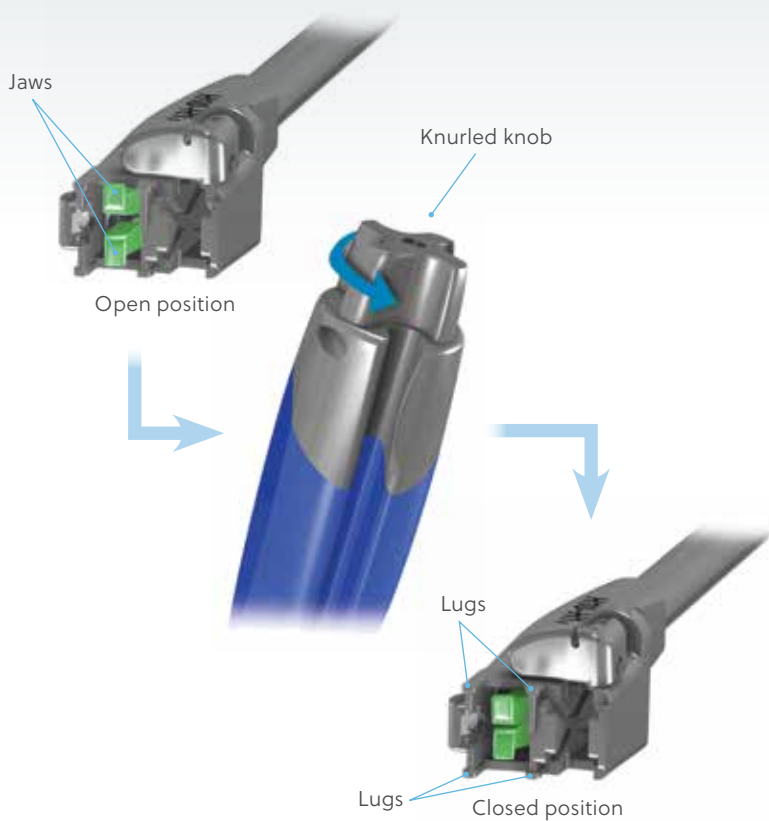

Figure 25
- Check that the implant holder jaws are completely closed. If they are open, unscrew the knurled knob on the snap-on handle until the two jaws are in contact with one another (Figure 25).